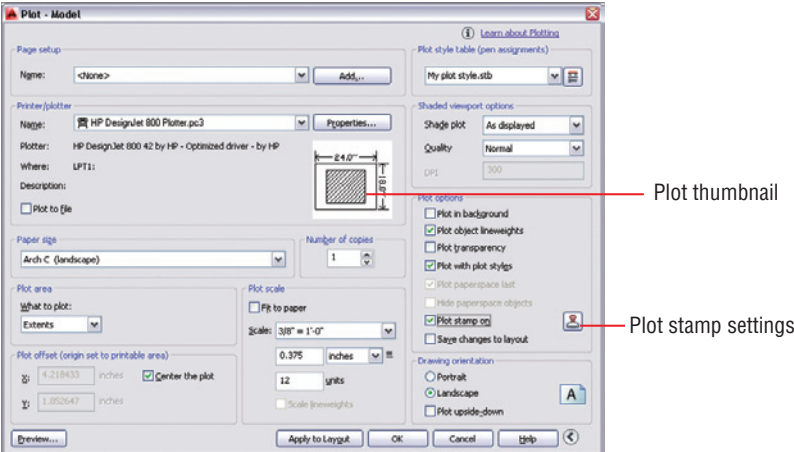
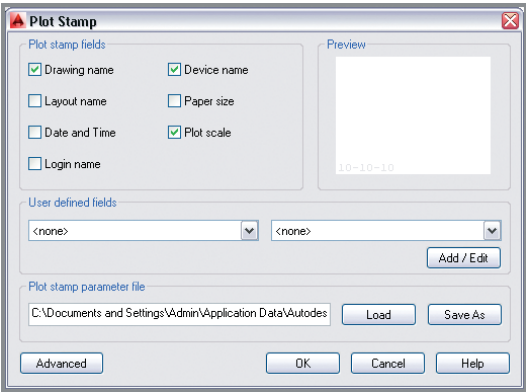

FIGURE 14.23 Configuring the Plot dialog box for output
FIGURE 14.24 Configuring the Plot Stamp feature
5. Type **PLOT**, and press Enter. Select the HP DesignJet 800 Plotter. pc3 from the Name drop-down menu (no system printers appear). Select Arch C (landscape) in the Paper Size area and Extents in the What To Plot drop-down menu. Select Center The Plot in the Plot Offset area, deselect Fit To Paper in the Plot Scale area, and 3/8" = 1'-0" from the Scale drop-down menu. Click the More Options button to expand the dialog box. Select My plot style.stb in the Plot Style Table area. Select Plot Stamp On in the Plot Options area (see Figure 14.23).
6. Click the Plot Stamp Settings button, as shown in Figure 14.23. Select Drawing Name, Device Name, and Plot Scale in the Plot Stamp dialog box that appears (see Figure 14.24). Click OK.